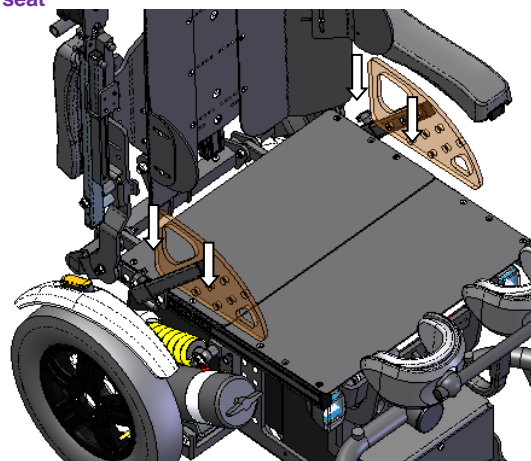

Figure 10 : adjustment depth seat sheets
- Loosen the four screws on the rear seat plate (see Figure 10)